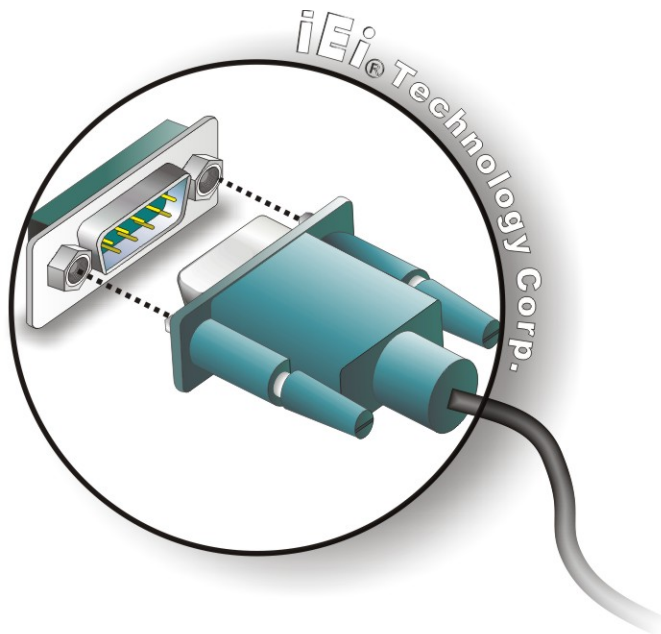

Figure 4-26: Serial Device Connector
Step 2: Insert the serial connector. Insert the DB-9 connector of a serial device into the DB-9 connector on the bottom panel. See **Figure 4-26**.